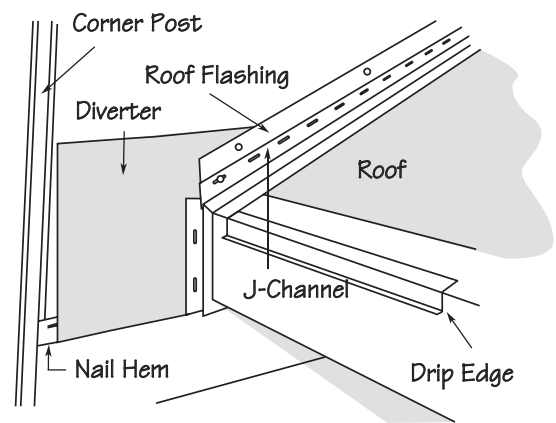

Figure 42.
- Cut a diverter from aluminum trim sheet, making sure it sits on the nail hem of the last full course (Fig. 42). Also make sure to slip it behind all J-channels and roof flashing (similar to flashing the bottom of window detail shown on page 19).